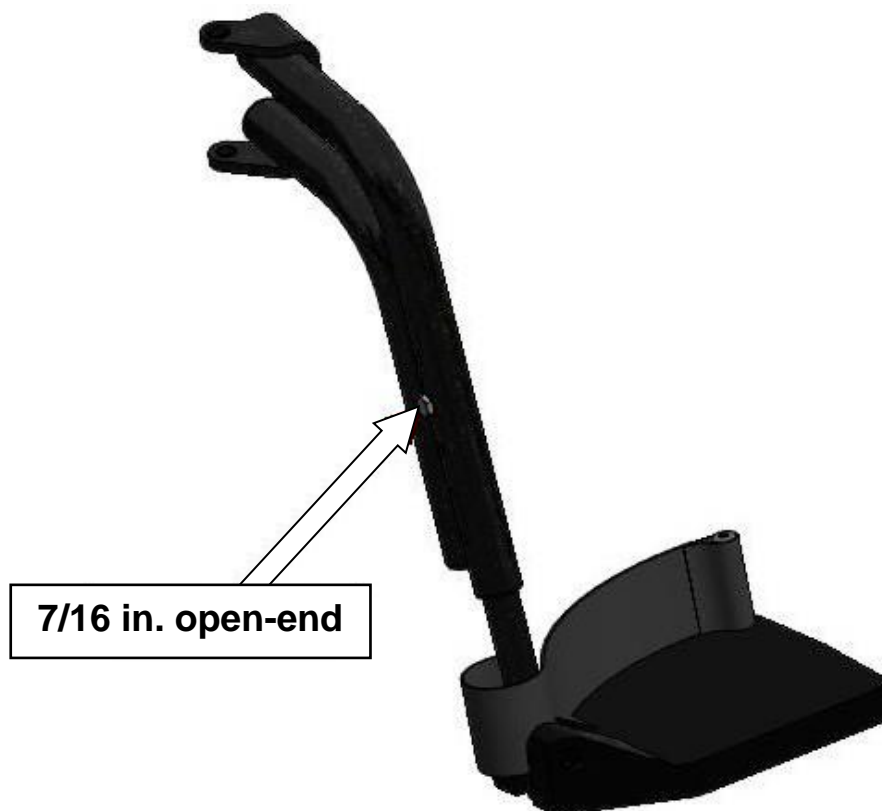

Figure 20: Length adjustment
- 1- Using a *7/16 in. open-end wrench*, completely unscrew the screw as shown in figure 20 below. This screw fits all models.